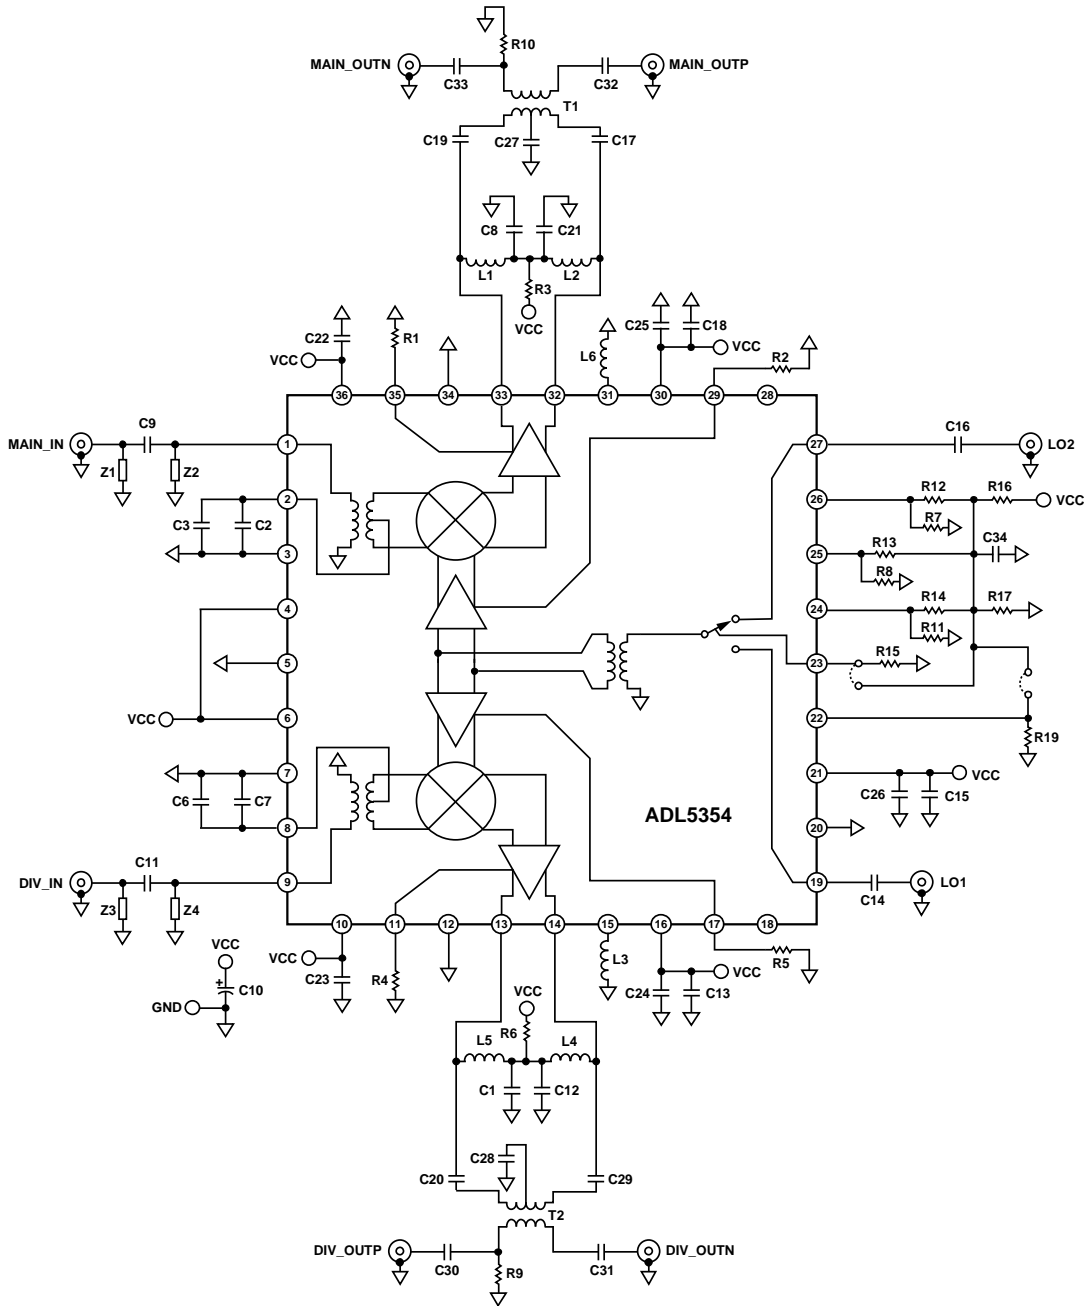

Figure 52. Typical Application Circuit
The ADL5354 mixer is designed to downconvert radio frequencies (RF) primarily between 2200 MHz and 2700 MHz to lower intermediate frequencies (IF) between 30 MHz and 450 MHz. Figure 52 depicts the basic connections of the mixer. It is recommended to ac couple the RF and LO input ports to prevent nonzero dc voltages from damaging the RF balun or LO input circuit. The RFIN matching network consists of a series 1.5 pF capacitor and a shunt 4.3 nH inductor to provide the optimized RF input return loss for the desired frequency band.
need for a transformer. This results in a voltage conversion gain that is approximately 6 dB higher than the power conversion gain, as shown in Table 3. When a 50 Ω output impedance is needed, use a 4:1 impedance transformer, as shown in Figure 52.